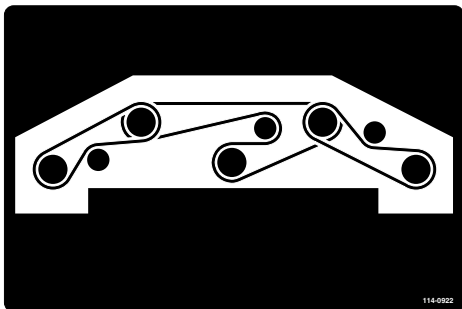

Figure 126
8. Route the new belt around the spindle pulleys and idler-pulley assembly (Figure 126).